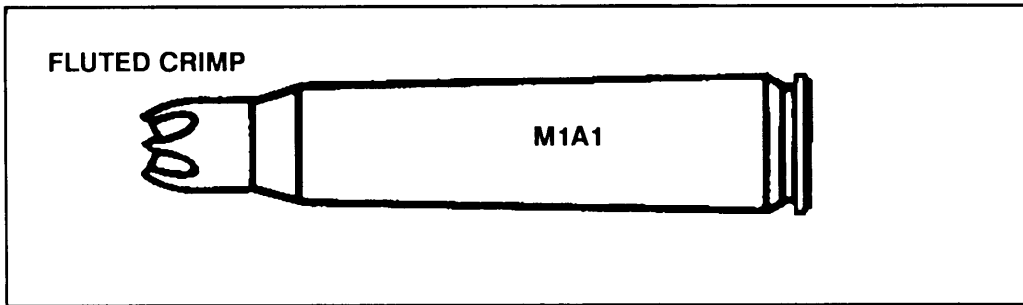
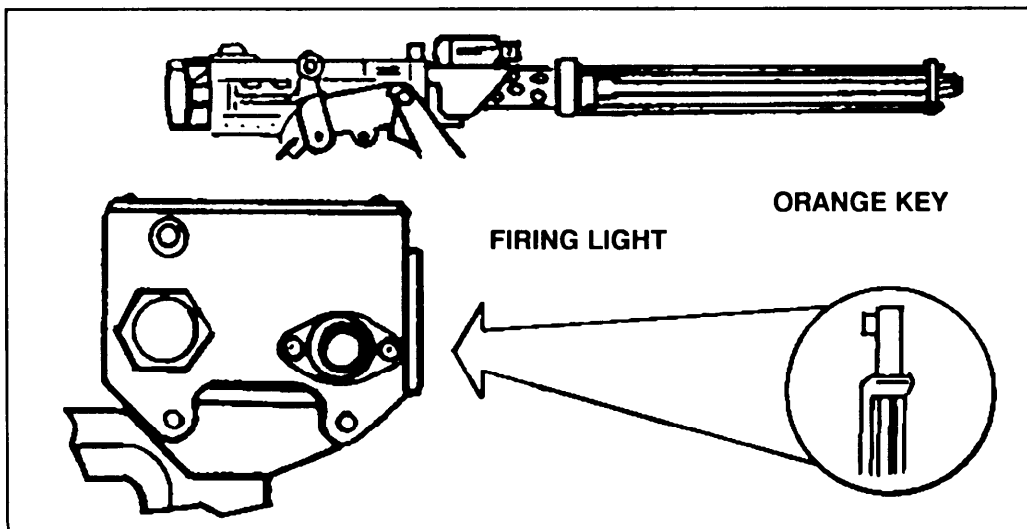

Figure B-6. Proper blank ammunition to use with M19 BFA.
Figure B-7. Operation of the MILES transmitter.
d. **Operating the Transmitter.** Ensure that the M19 BFA is correctly mounted. Turn the orange key to WEAPON ON. Load the machine gun with M1A1 blank ammunition only (Figure B-6). Fire normally. The sound of the blanks firing will trigger the transmitter. The transmitter will work only as long as the supply of blank ammunition lasts. Once a day, use a clean cloth to remove blank fire residue from the transmitter lens. To test the transmitter, fire a shot burst and watch the firing lamp (Figure B-7). If no light, replace the battery and test again. If still no light, replace the transmitter. Use DA Form 2404 to report the information.